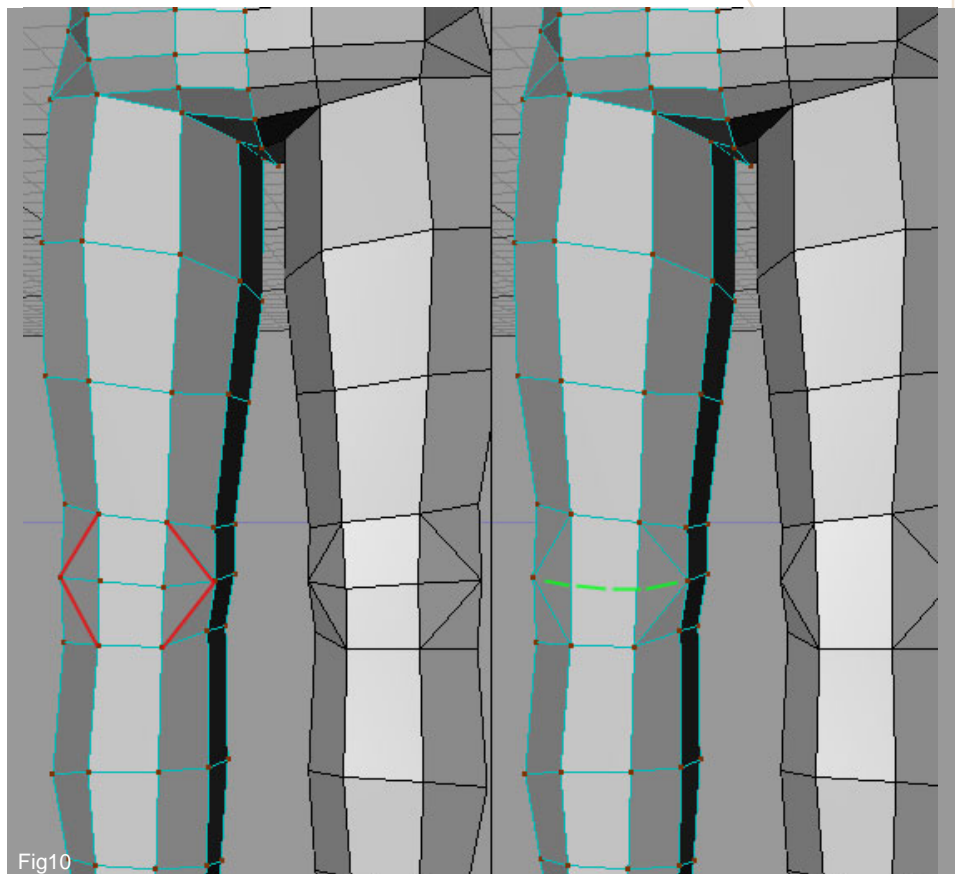

Fig10
8. The legs are now completed. Before we move on to the arms we need to add new cuts in the back of knee area. That will allow us to get a better deformation of the legs when we bend the knees (assuming of course that we are going to attach a skeleton). Then, with the Knife tool, add the diagonal cuts, as shown on the left of Fig10.
Finally, weld the vertexes to eliminate the edges, marked in green on the right of Fig10.